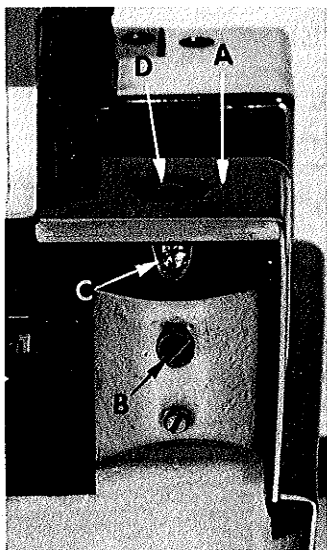

Fig. 3
CAUTION: When removing the cloth plate (A, Fig. 3) loosen the cloth plate stud locking screw (B) and lift up cloth plate with the cloth plate stud (C) and cloth plate screw (D), assembled.